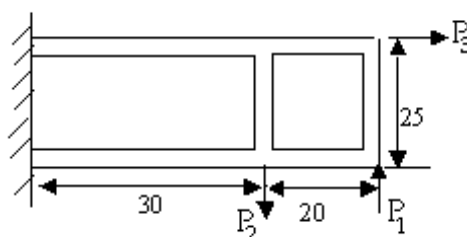

Figure 3
- (b) Find the shear flow in each web of the beam shown in the figure 3. Plot the distribution of axial load along each stiffening member when $P_1=20$ kN, $P_2=15$ kN and $P_3=10$ kN. All dimensions are in cm. [4+12]